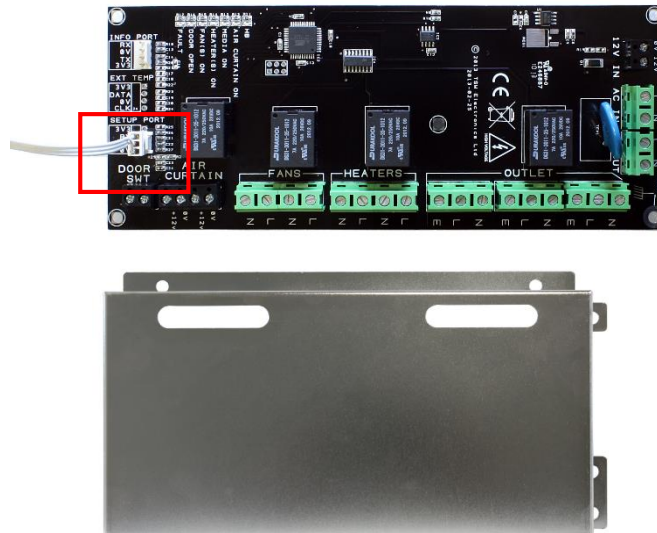

Figure 2
- STEP 5: Check all apparatus is present and correct (Figure2)
6. Connect the USB cable to your computer and the 3-pin internal connection to the setup port (highlighted red) on the controller board; located on the left hand side, third from the top (figure 2).